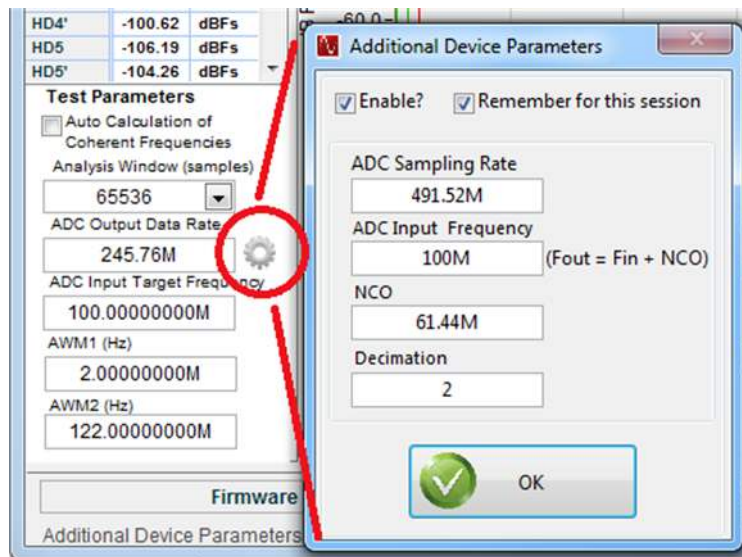

Figure 4. HSDC Pro Sampling Rate and Additional Device Parameters
6. Press the Additional Device Parameters symbol next to the ADC Output Data Rate (see Figure 4), and enter the following values, then press OK:
Based on the sampling rate and mode of operation, adjust *ADC Output Rate Additional Device Parameters* to correctly label the harmonics. An example is shown in Figure 4 for Mode 0.